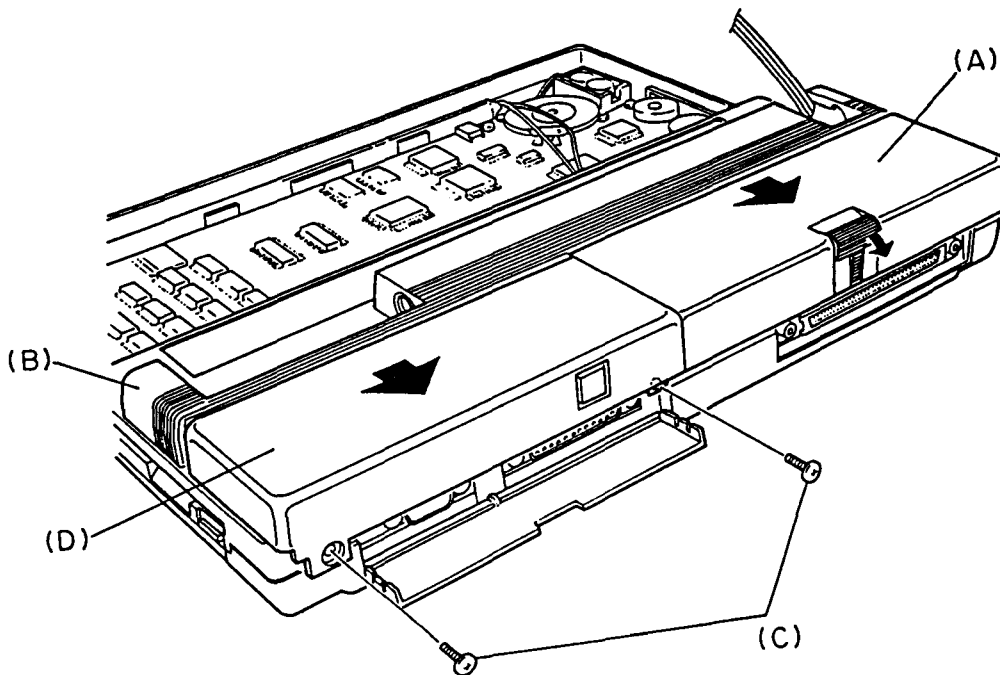

Figure 4-12 Removing the modem cover
2. Remove the battery pack (A) from the top cover (B).
3. Remove the two screws (C) fixing the modem cover (D). Refer to figure 4-12.